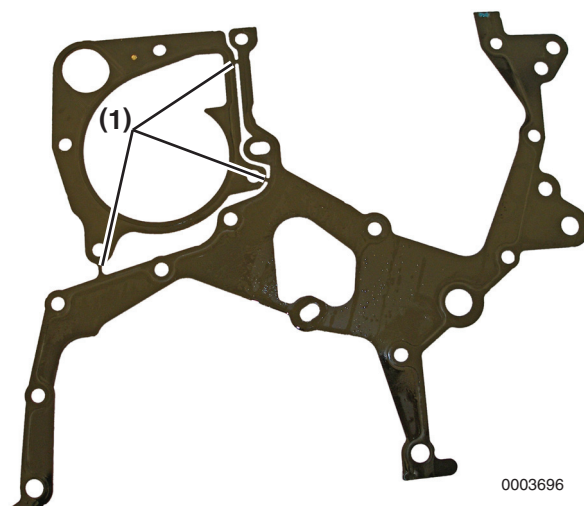

Figure 7-20
8. Cut tabs (**Figure 7-20, (1)**) of new gasket at locations shown. Check gasket fit on engine before proceeding.